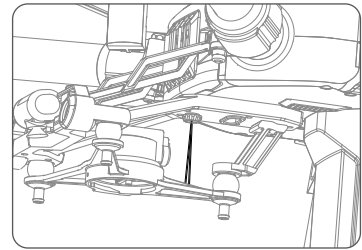

Fig.4
1. Check that the gimbal protection cable is properly affixed to the gimbal frame. Replace it with a 0.5mm fishing line if it is damaged. (Fig. 4)